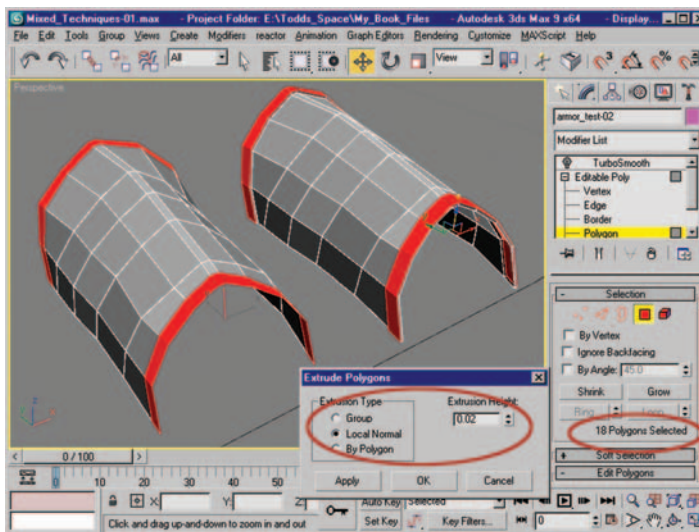

Figure 10.7 Polygon selection before and after extruding.
9. Select the polygons seen in Figure 10.7 (left) and use the Extrude settings dialog box with an Extrude Height of 0.02 to achieve the result seen in Figure 10.7 (right). *Note: To select the polygons seen in the figure, simply select one edge at the front and one edge at the back and then use Ring or Alt+R to create a ring selection. With*